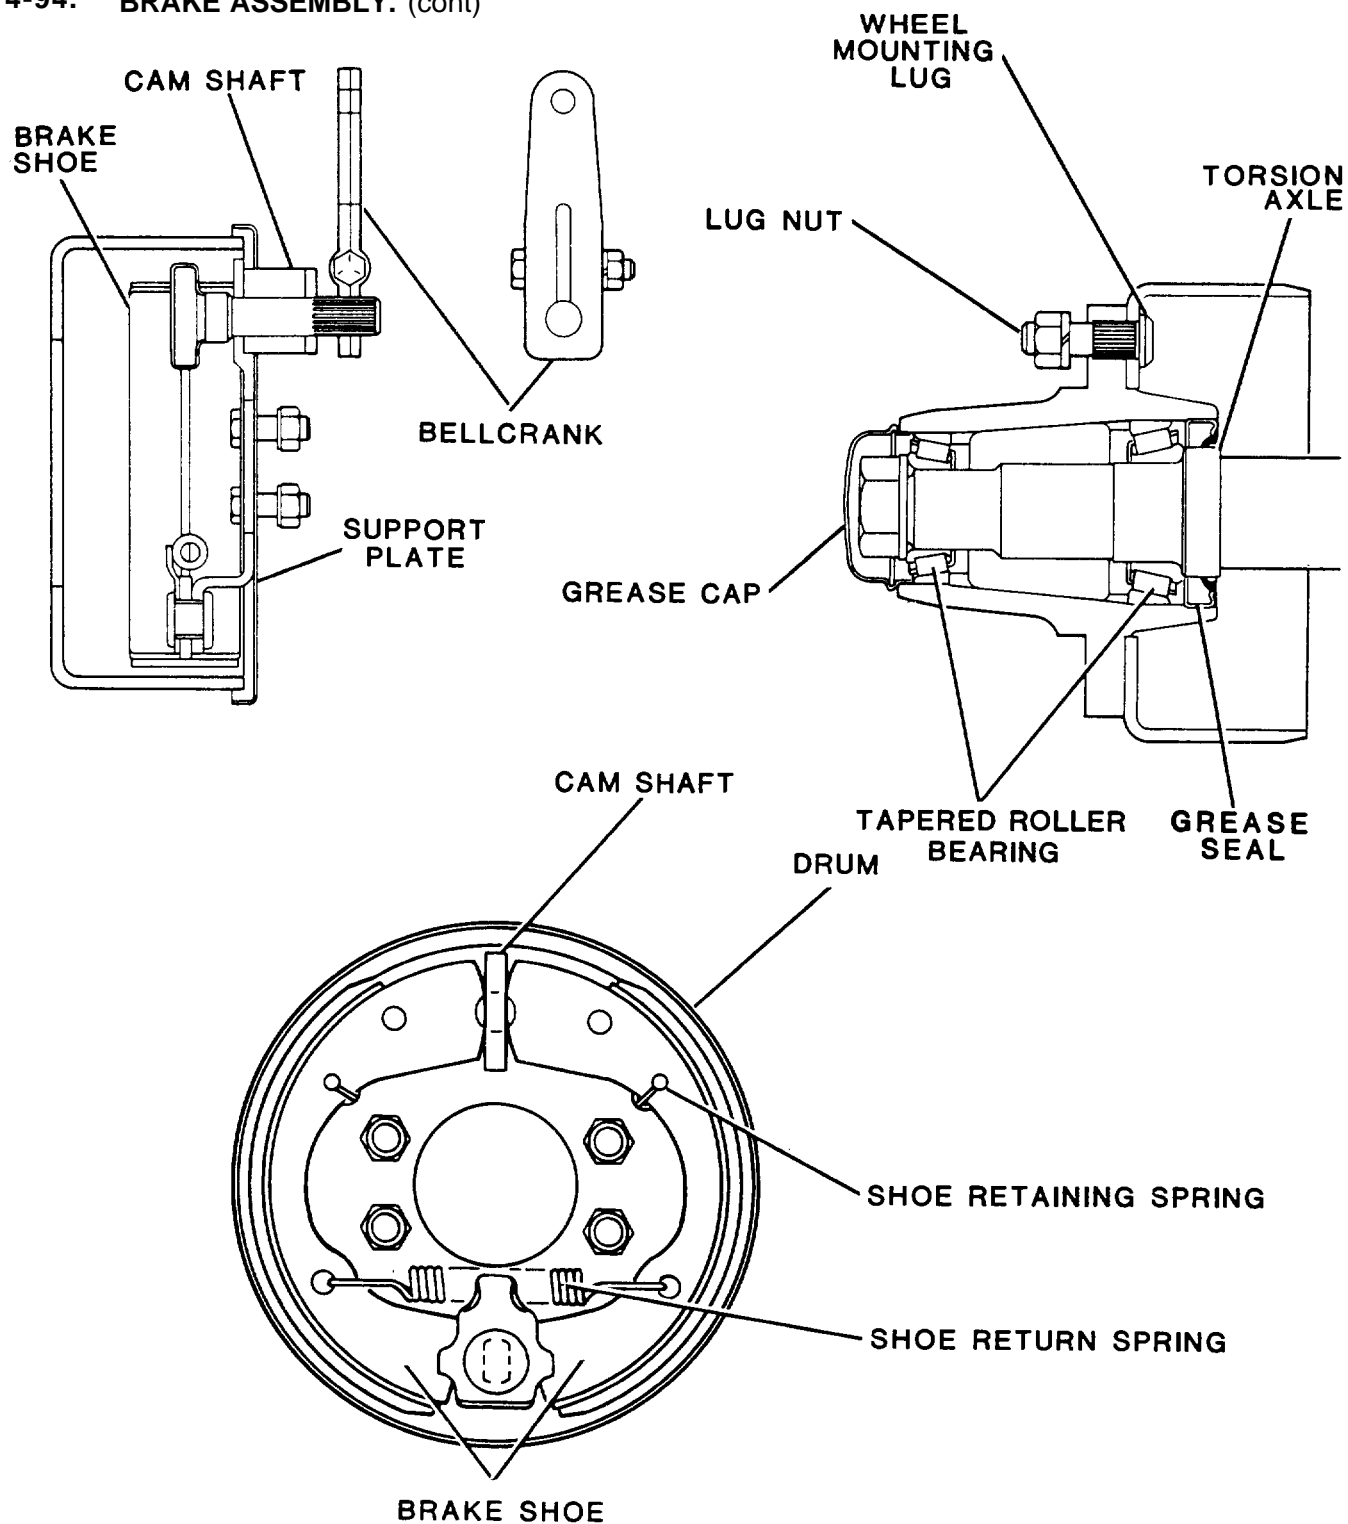

Figure 4-58. Brake Assembly Inspection
(1) Remove wheel (paragraph 4-92a).
(2) Remove grease cap (1, figure 4-58).
(3) Remove cotter pin (2), nut (3), washer (4), and bearing (5).
(4) Remove hub and drum assembly (6) from brake assembly (7).
(5) Ensure that shoe retaining and return springs are secure.
(6) Ensure that bellcrank is securely installed.